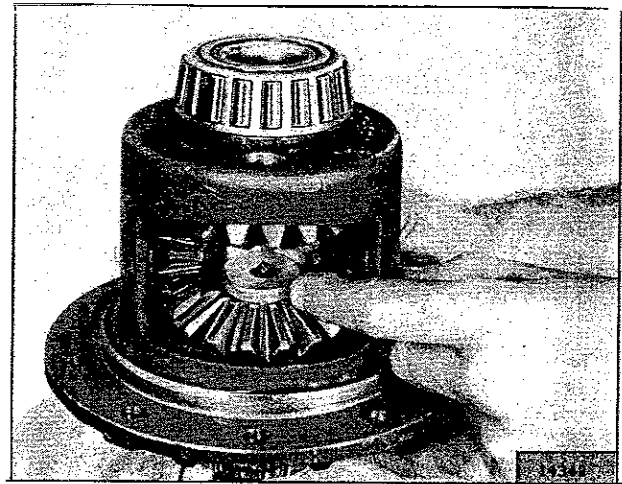

FIG. N-41—INSTALLING STEP PLATE TOOL
f. Assemble the step plate tool into the side gear as shown in Fig. N-41. Apply a small dab of grease into the centering hole of the step plate tool.